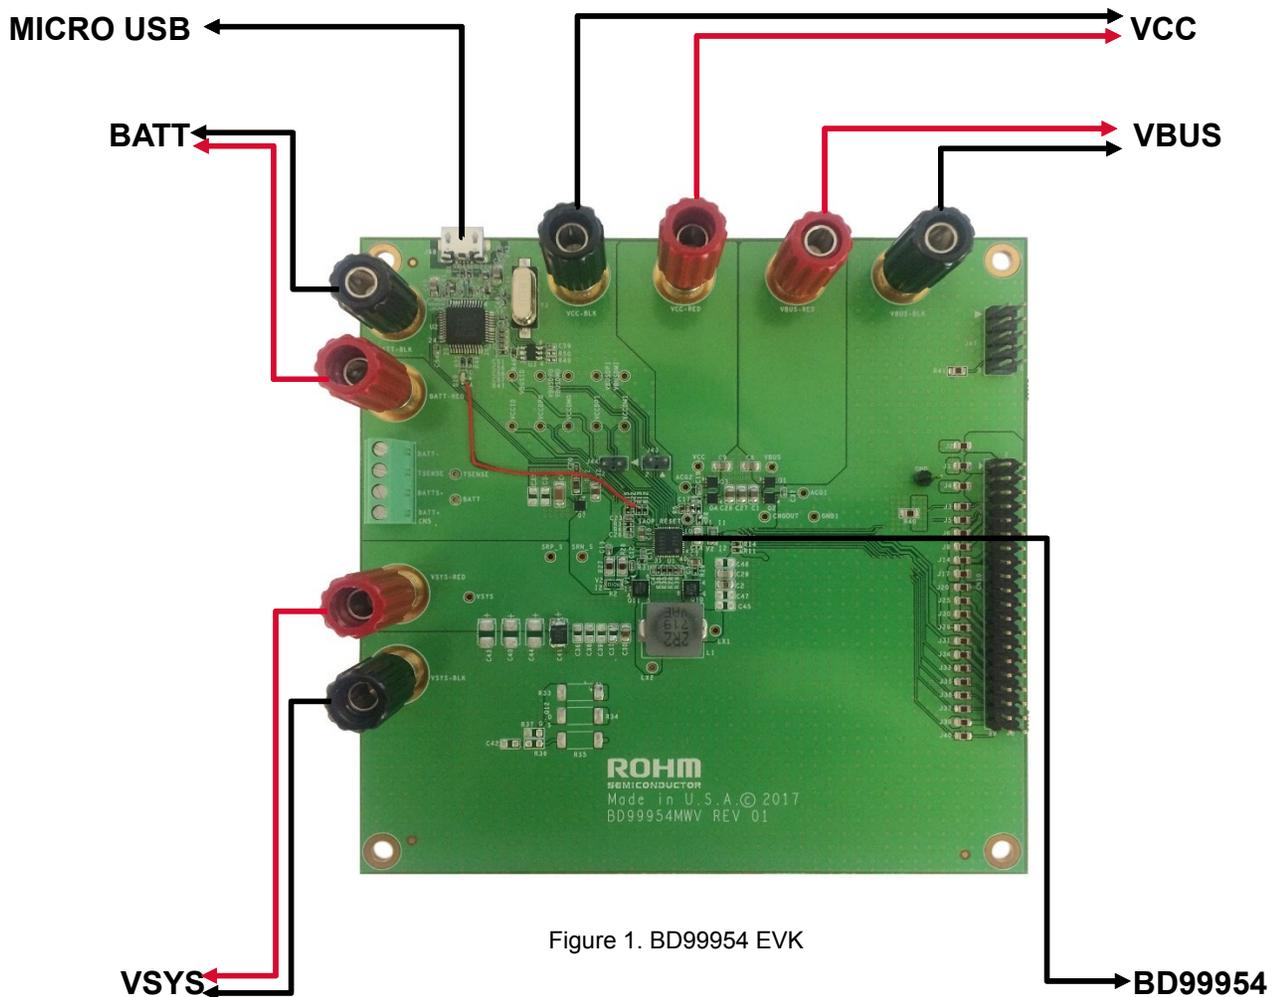

Figure 1. BD99954 EVK
1. Attach the power supply to the VBUS/VCC banana jacks. BD99954 will detect which node is being used to power up the IC, but if both VBUS and VCC (Figure 1) are connected to a source, VBUS will have priority to power the IC unless programmed otherwise.
2. When charging the battery, attach the cell(s) to the VBATT (Figure 1) banana jacks.
4. Turn on the power supply. The voltage at VSYS (Figure 1) should be around 8.9V. This is the default value programmed into the chip upon power up.
5. If the user would like to program the registers of the BD99954, connect a micro-USB (Figure 1) from the board (J48) to the USB port of a computer, then utilize the BD99954 I2C Control Software. Refer to the BD99954 I2C Control Software User's Manual for more information.